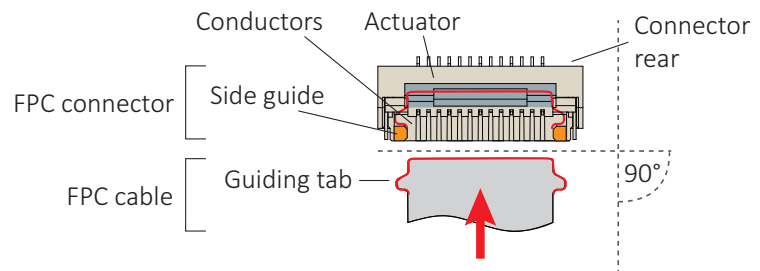
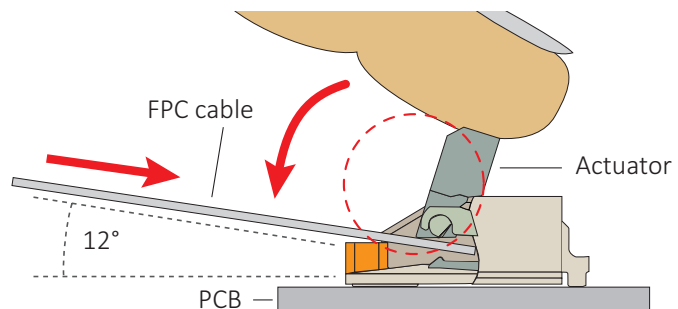

Figure 62: FPC cable and FPC connector
Figure 63: Engaging the FPC cable in the FPC connector
2. **Ensuring proper cable direction between host and camera**, take the FPC cable with conductors facing the FPC connector conductors (see Figure 62).
At a horizontal angle of 90 degrees to the connector's rear (see Figure 62) and at a vertical angle of 12 degrees to the PCB (see Figure 63), slowly insert the FPC cable into the actuator...
4. ...until cable guiding tabs are caught between connector rear and side guides (see Figure 62). Pull the cable slightly to ensure guiding tabs are properly engaged.
5. Holding the FPC cable in position, flap down the actuator to closed position (see Figure 63).